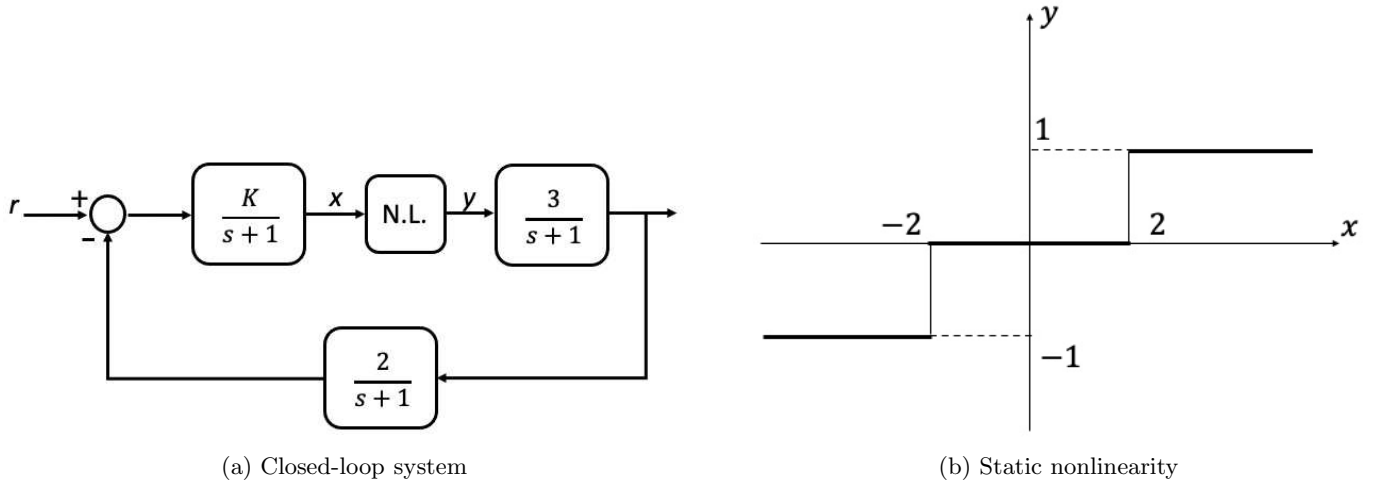

Figure 1: Closed-loop system with a static nonlinearity.
- 6) Consider the closed-loop system in Figure 1 with $K = 1$. Calculate the reference signals r_1, r_2